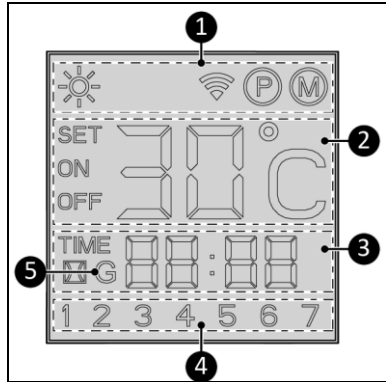

Figure 6
Status indication (Figure 6, pos. 1):
Temperature indication (Figure 6, pos. 2):
Time indication (Figure 6, pos. 3):
Day indication (Figure 6, pos. 4):
Wi-Fi indication (Figure 6, pos. 5):